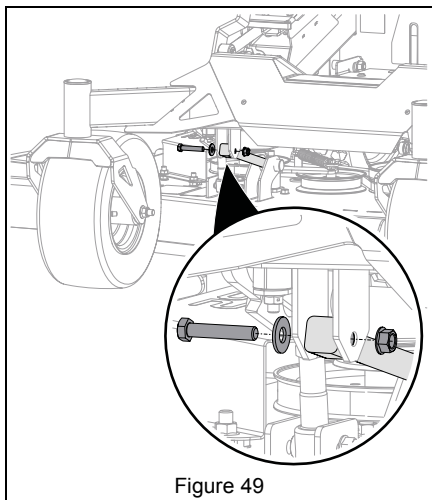

Figure 49
6. Remove hardware retaining drag links to frame. See Figure 49.